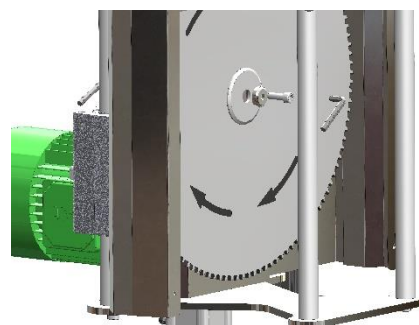

Figure 6
- 8.1.4. Remove the 30x8x7mm washer and Saw Flange parts regularly. (Figure 6)